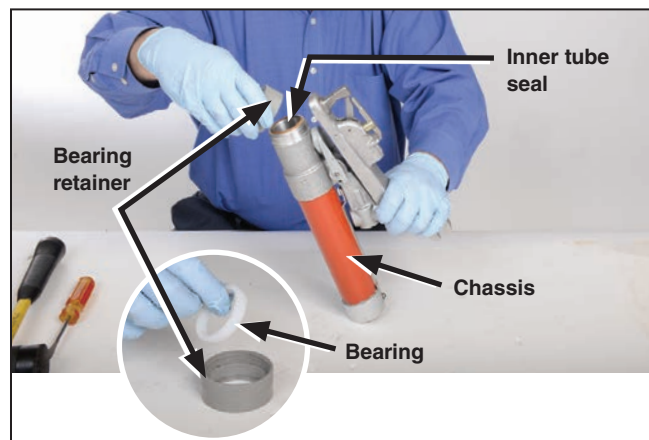

Figure 15. Remove the bearing retainer from the chassis along with the inner tube seal and the bearing.
- STEP 12.** Unscrew and remove the bearing retainer from the chassis, and remove the inner tube seal and the bearing. See Figure 15.